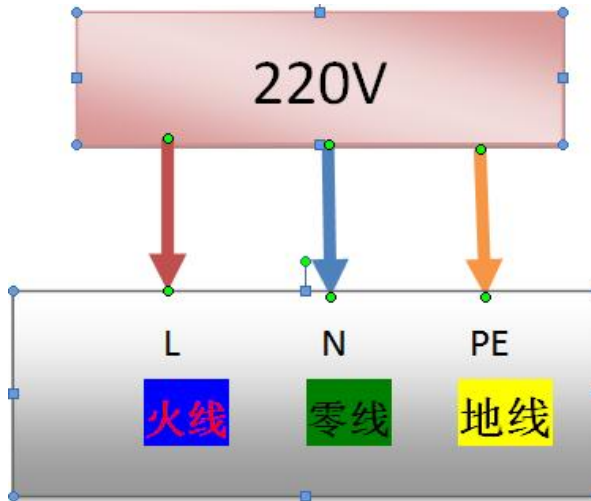

Figure 4-5 AC current input interface
(1) Before the first AC connection, please confirm that the leakage air switch in the rear panel of the laser chassis, the front panel key switch and the start button switch have been dialed to the off position, and the emergency stop switch is in the bounce state;
(2) The laser AC uses 3PIN aviation plug input, and its input interface is defined in Figure 4-5; the input AC specifications are shown in Table 4-3; please confirm whether the output AC meets the requirements before accessing mains; the wrong connection may directly lead to laser failure or damage; the AC connection is shown in Figure 4-6;